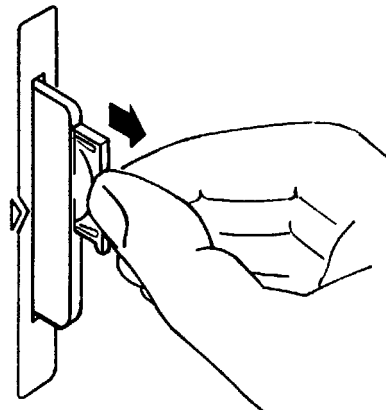

Figure 11 Replacing the Memory Card's Battery
2. Hold the memory card in the slot with one hand and pull the battery holder out with your other hand. (See Figure 11 on page 74.)